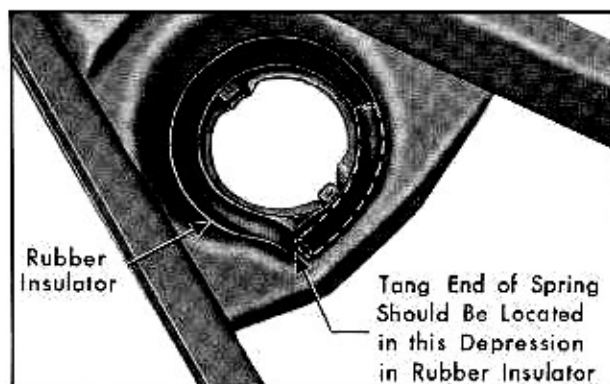

Fig. 6-23 Spring Location in Lower Seat
4. Tape upper rubber insulator to top (flat end) of spring and install spring in upper seat in cross-member. Rotate spring so that lower tanged end will fit in formed depression, Fig. 6-23, in insulator when lower suspension arm is raised into position.